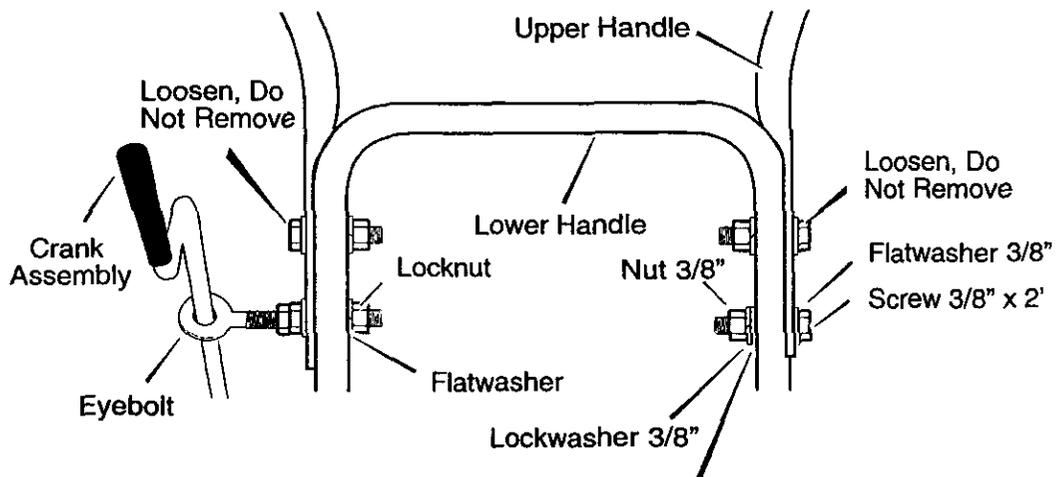

Figure 5
- Loosen, but do not remove, the **fasteners** in the upper holes of the lower handle. See Figure 5.
10. Tighten the locknut on the **eye bolt**. See Figure 5. Make sure **eye bolt** is properly aligned and the **crank** can freely rotate.